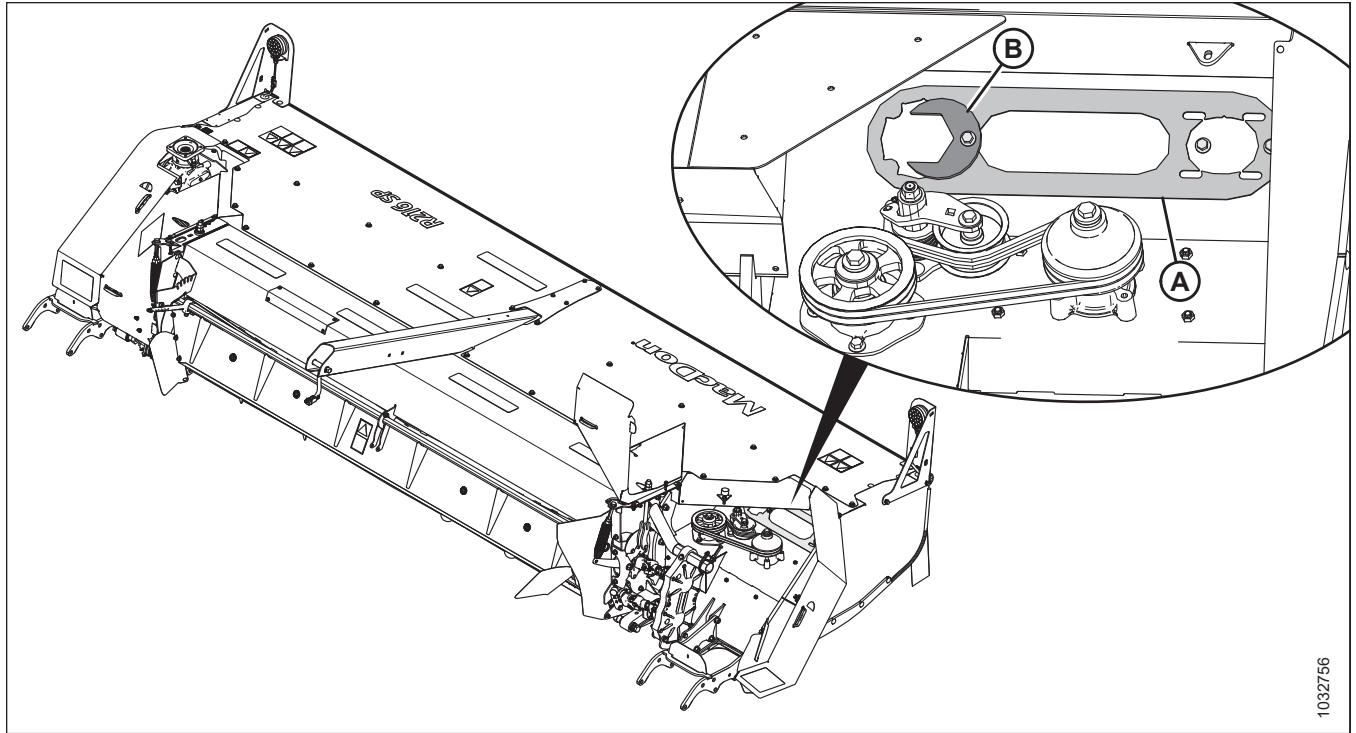

Figure 4.172: Disc Timing Tool Location on Header
15. Close cutterbar curtain (A). For instructions, refer to 3.10.2 Closing Cutterbar Curtain, page 116.
16. Return safecut spindle-nut wrench to its storage location. For storage location of wrench (B), refer to Figure 4.172, page 241.